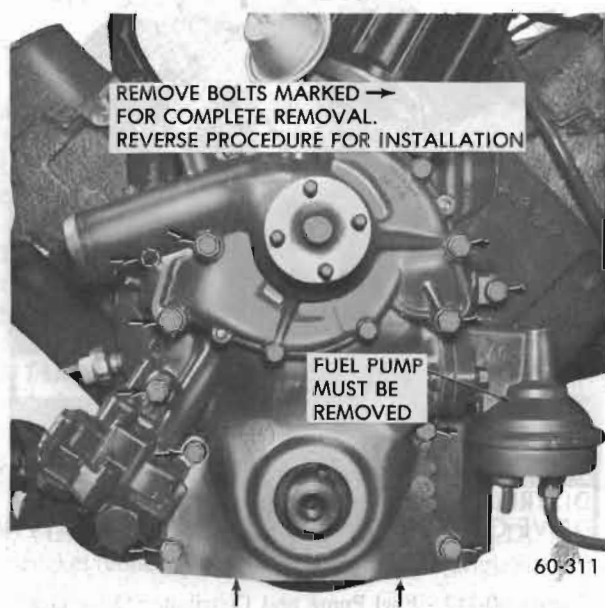

Figure 60-108 - Timing Chain Cover Removal and Installation (350 cu.in.)
11. Remove bolts attaching timing chain cover to cylinder block. See Figures 60-108 and 60-109. Remove two oil pan to timing chain cover bolts 350 Cu In. and 4 bolts on the 455 Cu. In. Remove timing chain cover assembly and gasket. Thoroughly clean the cover, taking care to avoid damage to the gasket surface.
4. Lubricate the bolt threads before installation and install as shown in Figures 60-108 and 60-109.